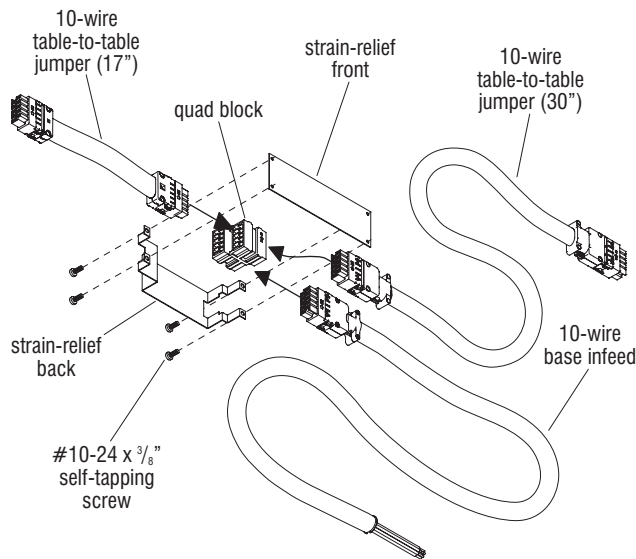

Figure 7
1. As illustrated, plug the 17" 10-wire table-to-table jumper, 30" 10-wire table-to-table jumper and 10-wire base infeed into the quad block (Figure 7).
2. Set the above installed electrical components into the strain-relief back as illustrated, place the strain relief front over the mounting holes of strain-relief back, and secure together using four #10-24 x $\frac{3}{8}$ " self-tapping screws (Figure 7).